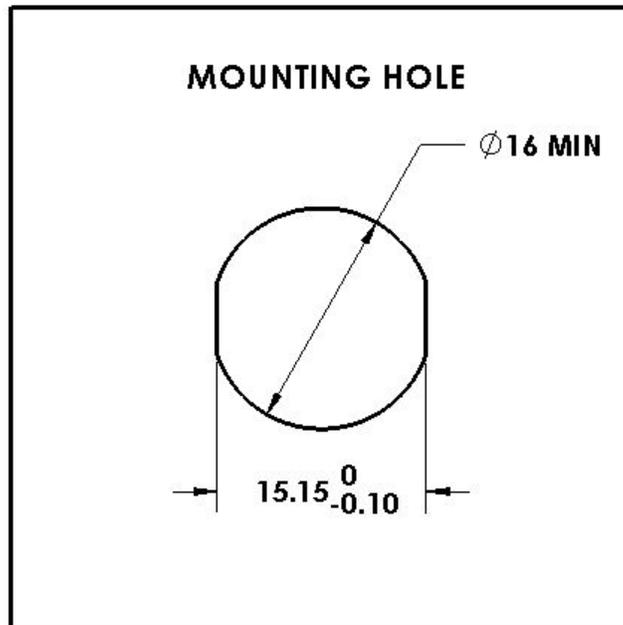

Figure 2: Test Switch mounting hole dimension
- The switch mounts through a mounting hole which may need to be made in the luminaire or could come pre-punched by the luminaire supplier. Please refer figure 2 for mounting hole dimensions.